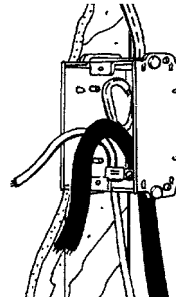

Fig. 4
3. Trim excess length of supply branch circuit, cold lead and temperature sensor cables, as necessary, leaving about 6" projecting from the Electrical Connection Box (ECB), see Figure 4.